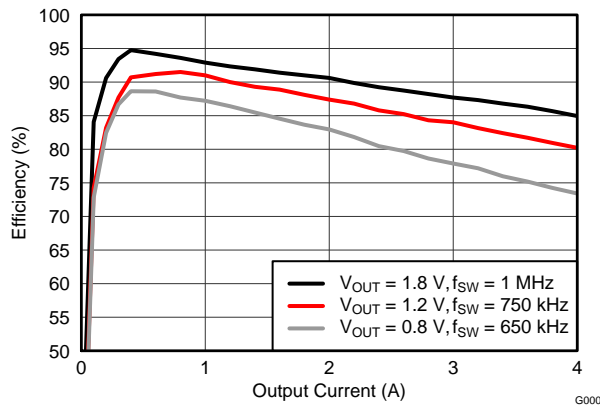
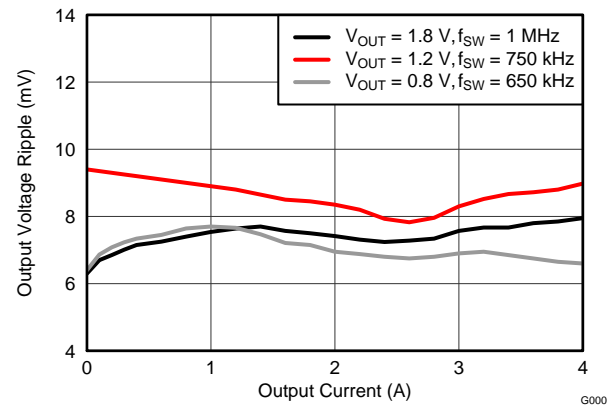
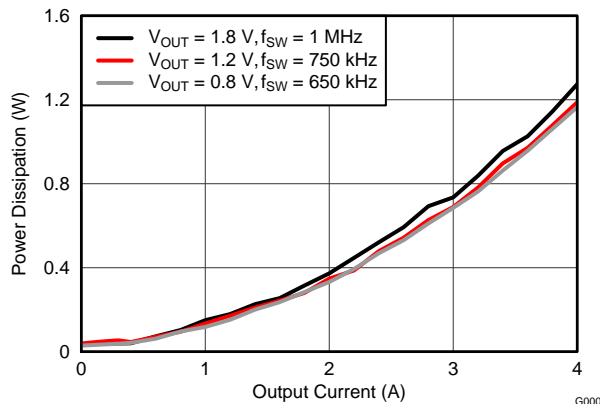

Figure 6. Efficiency vs. Output Current
Figure 7. Voltage Ripple vs. Output Current
Figure 8. Power Dissipation vs. Output Current
- (1) The electrical characteristic data has been developed from actual products tested at 25°C. This data is considered typical for the converter. Applies to Figure 6, Figure 7, and Figure 8.